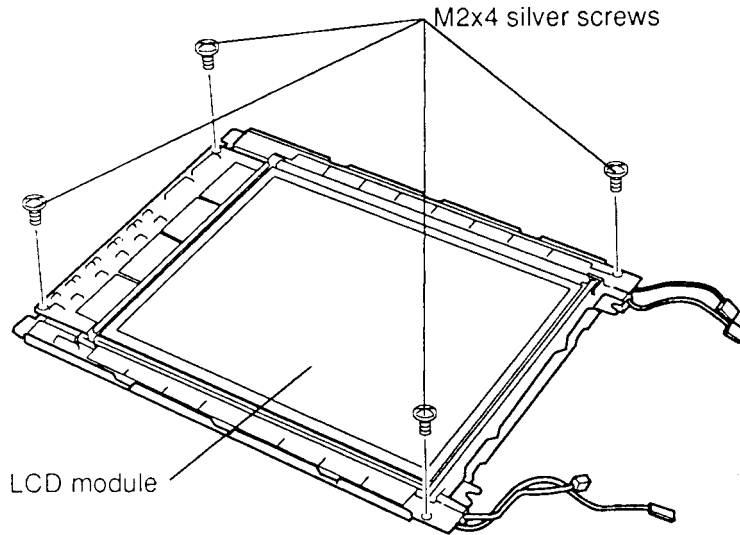

Figure 4-41 Removing the LCD Panel Screws
5. Remove the **four M2x4 silver screws** securing the **LCD panel** to the **FL unit** (Figure 4-41).
3. Secure the **LCD panel** to the **FL unit** with **four silver M2x4 screws** (Figure 4-41).